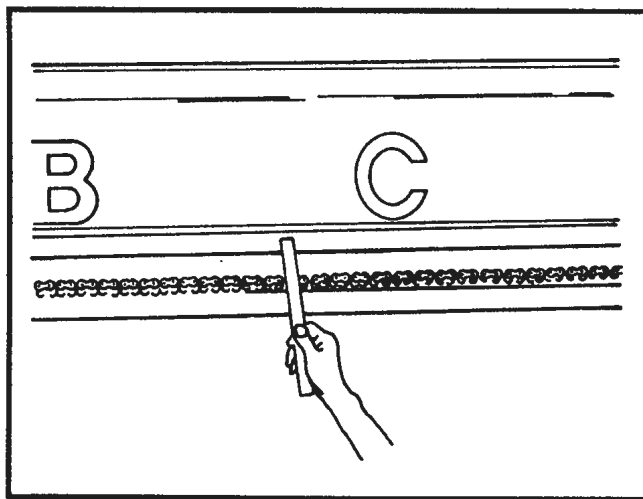

Figure 10-8. Boom Chain Adjustment
5. Measure down from the midpoint of the intermediate boom section to the centerline of the extend chains. This dimension must be 3.75 to 4.00 inches (9.5 to 10.1 cm). Refer to Figure 10-8.